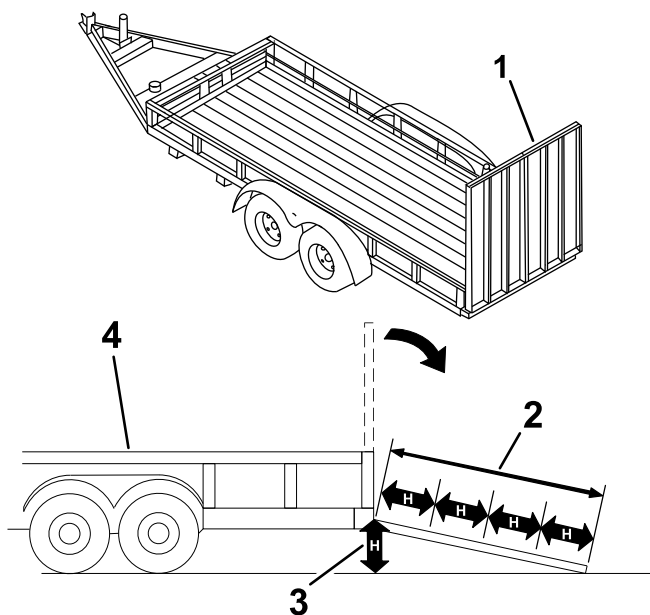

Figure 28
Loading a machine onto a trailer or truck increases the possibility of tip-over and could cause serious injury or death (Figure 28).
3. Lower the ramp (Figure 28).